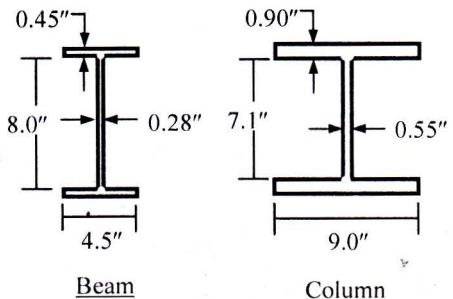

Fig. 6
6. Fig. 6 shows the member sections for Model-1 of 'UAP-1' described in Question 4 [shown in Fig. 4(b)] if it is made of steel instead of RC. Calculate the